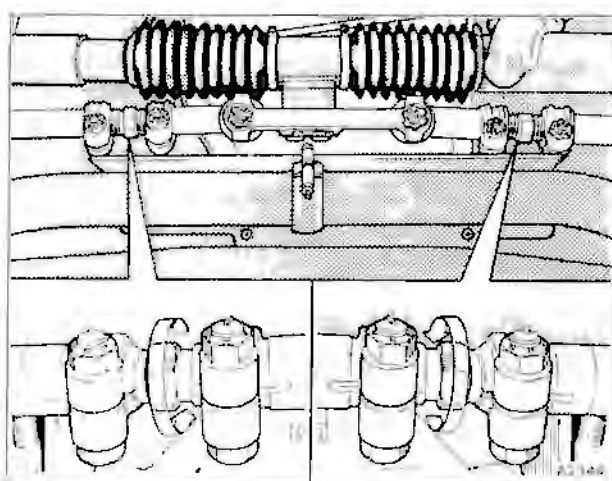

Fig. H7-3 Track rod toe-in adjustment
3. If adjustment is necessary, slacken the pinch bolts securing the track rod adjusters (see fig. H7-3). Rotate the adjusters to bring the wheels into the straight ahead position (zero toe-in).